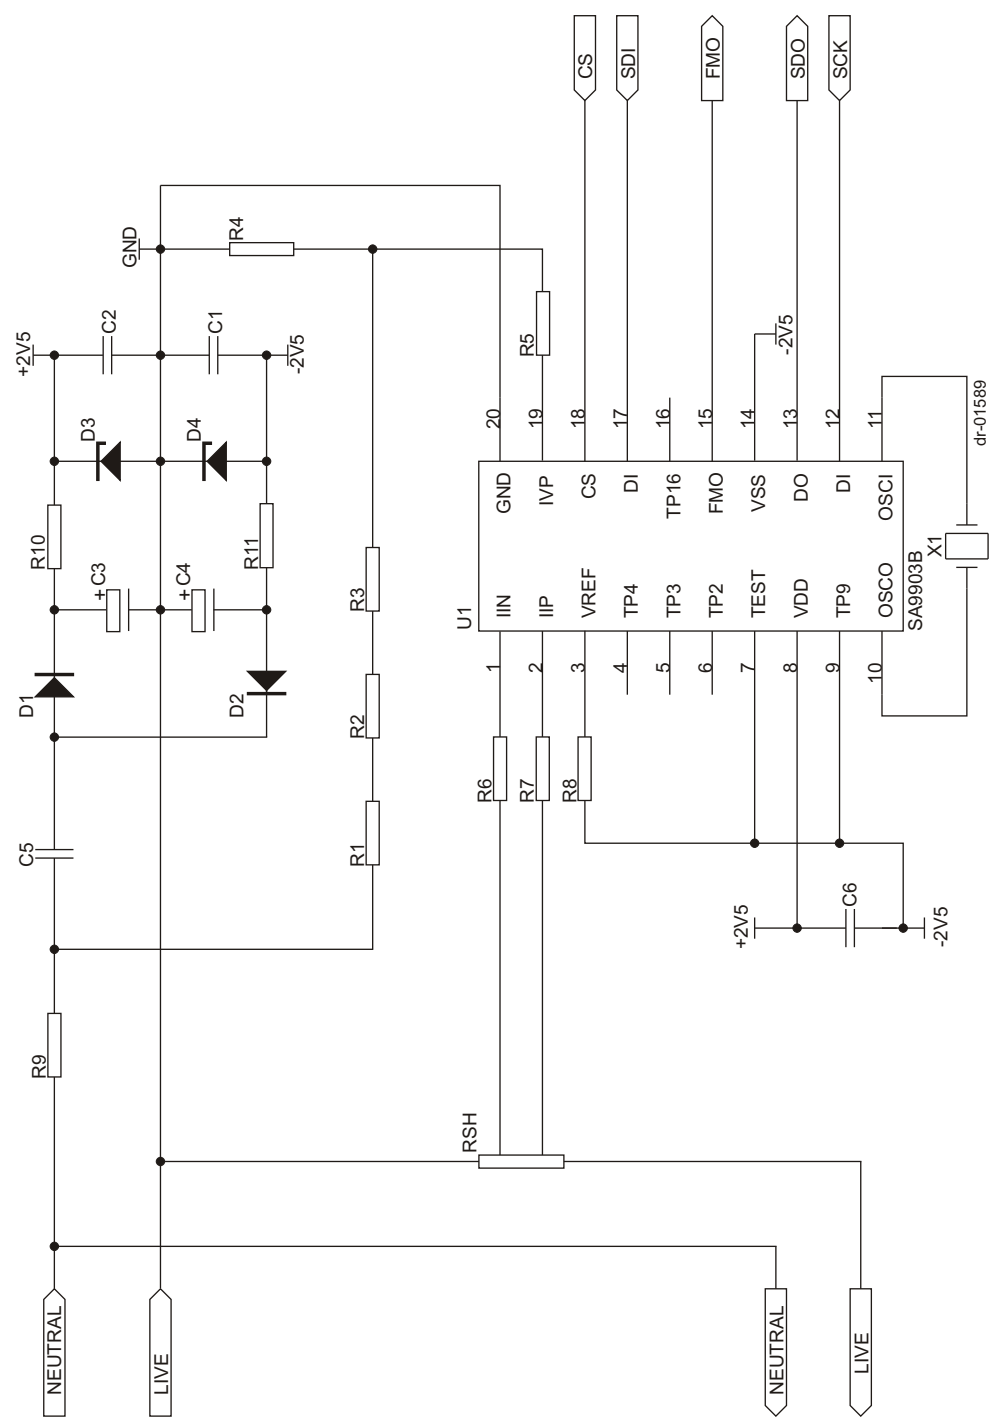

Figure 8: Typical application circuit
In figure 8, the components required for a two wire single phase power/energy metering section of a meter, is shown The application uses a shunt for the mains current sensing. The metering section described in this section will be designed for measuring 230V/80A with precision better than Class 1
The voltage divider is calculated for a voltage drop of 14V+2.3% (14.33V). Equations for the voltage divider in figure 8 are:
**Parts List for Application Circuit: Figure 8**